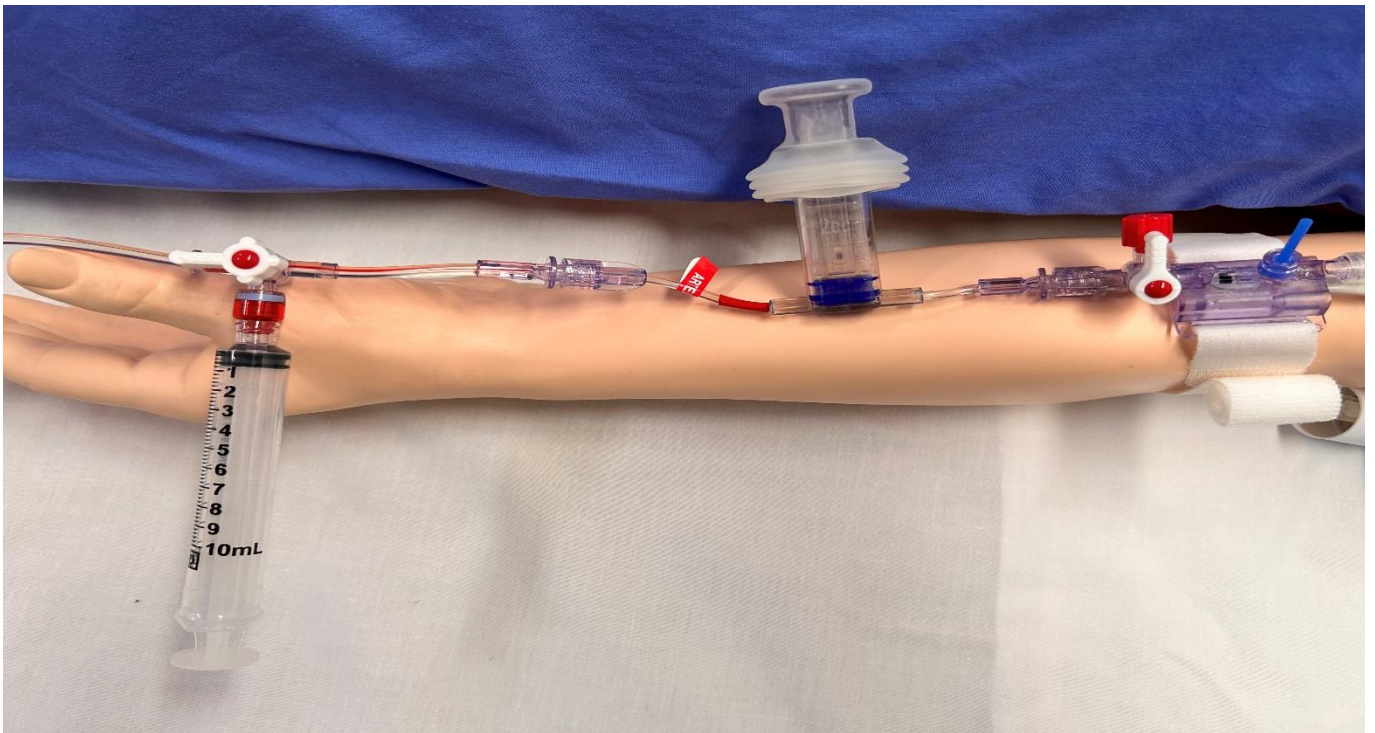

Figure 14.
10. Next is the clearing of the A line from any blood or clots. For this procedure, first close the **three-way tap to the insertion site**. This will prevent blood coming back to the line. Attach a 10ml syringe to the sample port to aspirate/ flush any residual blood in the line. (See figure 14 below).